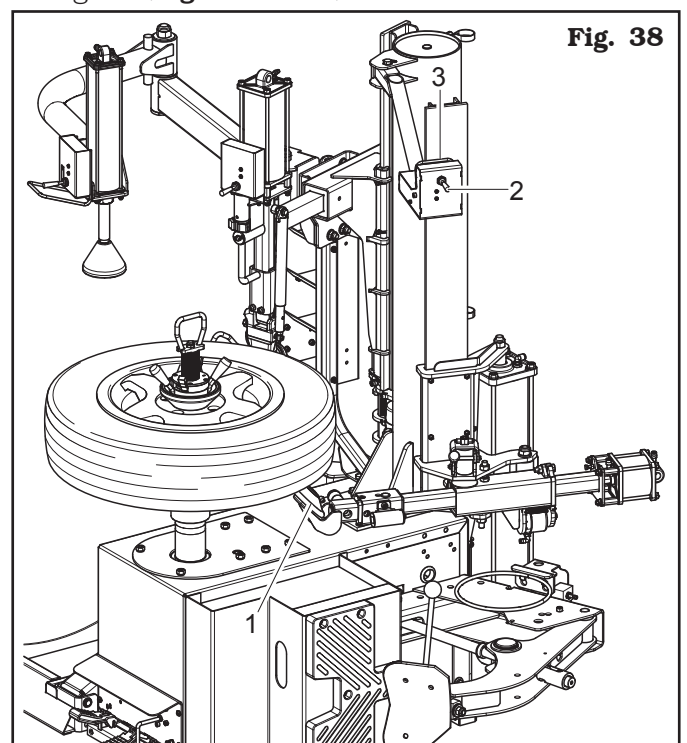

Fig. 38
Lift the lever (Fig. 38 ref. 2) to bring the bead breaker roll only just above the rim lower edge. Pull the rear lever (Fig. 38 ref. 3) until the bead breaking roll (Fig. 38 ref. 1) is introduced into the rim.